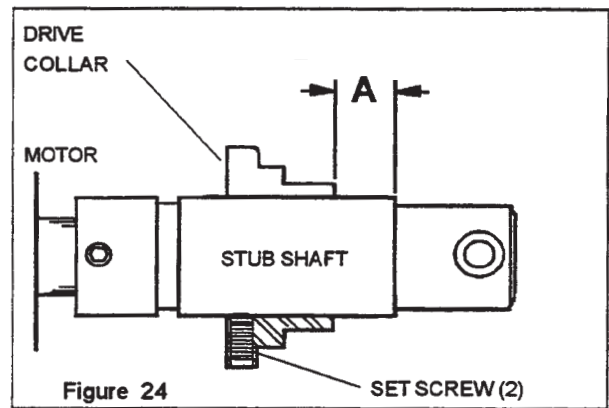

Figure 24
- Slide the seal drive collar onto the stub shaft as shown in Figure 24.
SEAL CHART for figure 24